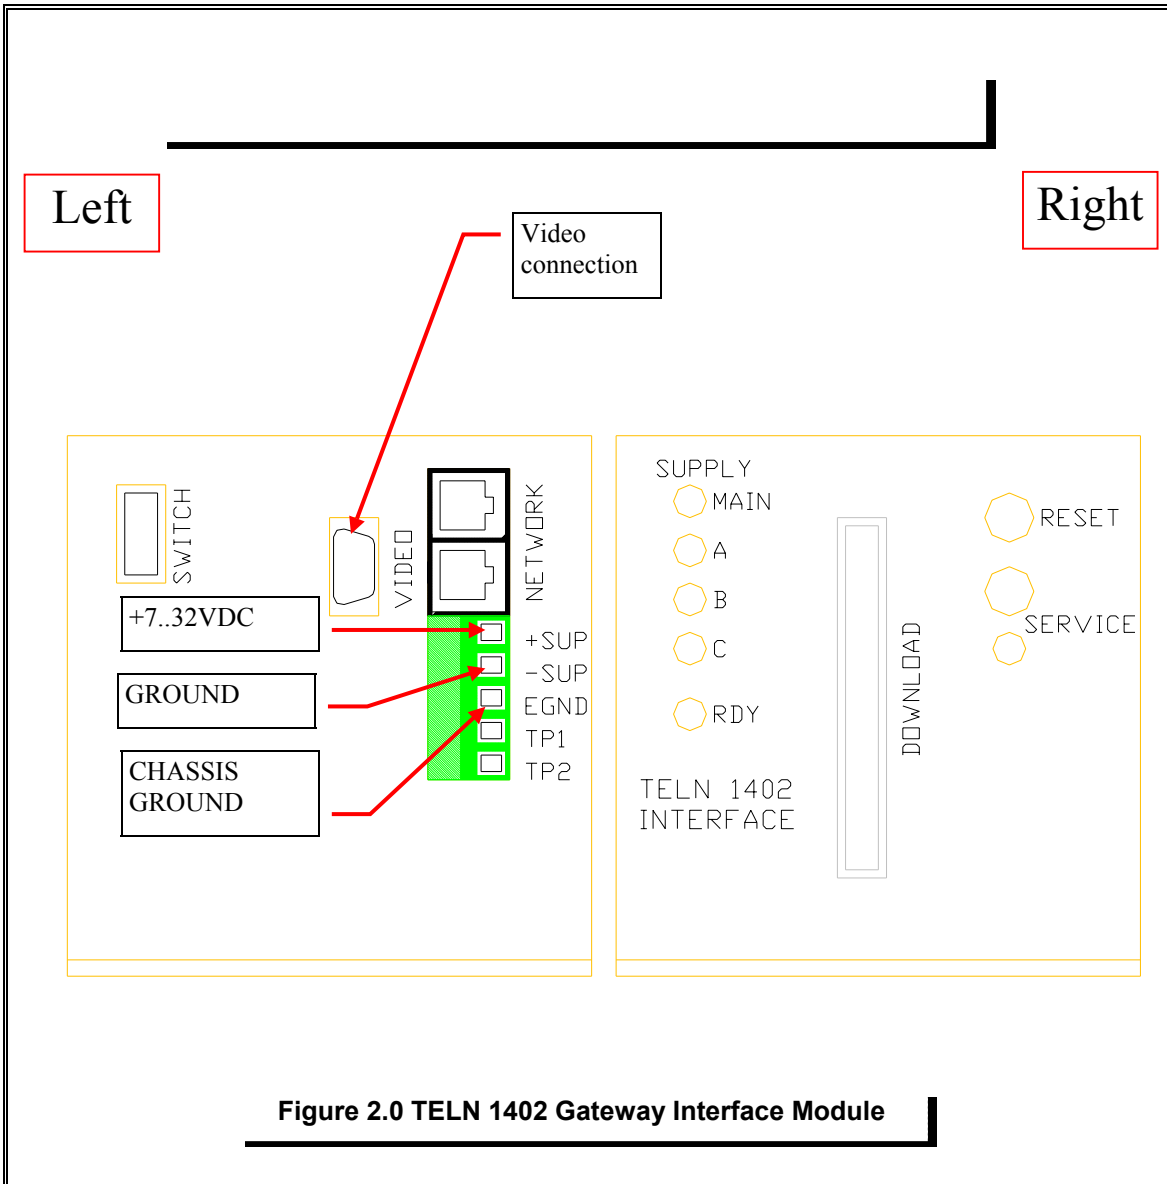

Figure 2.0 TELN 1402 Gateway Interface Module
To wire the TELN 1402 Gateway Interface Module, Refer to figure 2.0 for connector locations. Connect wires into connectors as needed following location and descriptions from figure 2.0.
3. Connect the Power and Output wires as depicted in figure. 2.0 . This will power the board and connect the loads to the Outputs.